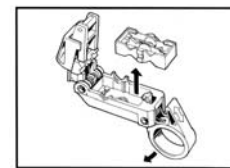

Figure 18
**B.** Remove the cassette from the tool by moving the locking latch in the direction of the arrow (Fig 18). Then push the cassette out of the tool by inserting wrench, or appropriate object, through hole in bottom of the tool. Turn blade adjustment set screws counterclockwise until they are fully retracted.